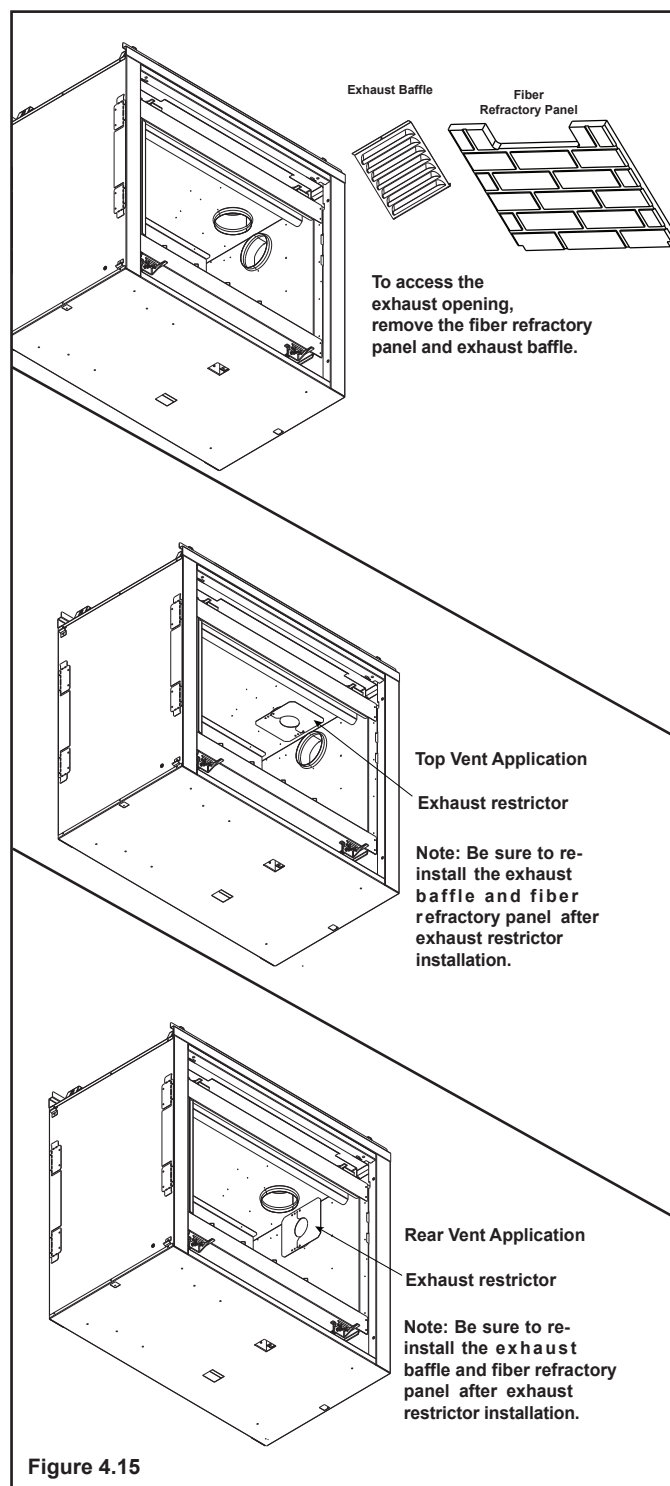

Figure 4.15
1. Remove fiber refractory panel and exhaust baffle from pilot side of appliance. To remove the exhaust baffle, remove the three screws securing it in place. See Figure 4.15.